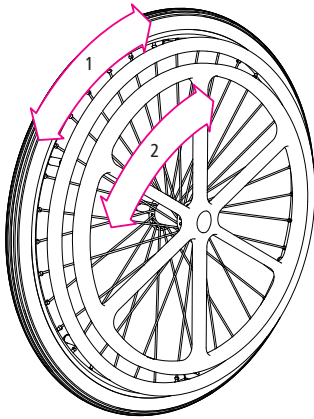

Fig. 13
1. Both push rims are pushed together to drive straight ahead (1+2, Fig.13).
2. The outer push rim (1, Fig. 13) steers the active side and the inner one (2, Fig. 13) the passive side.